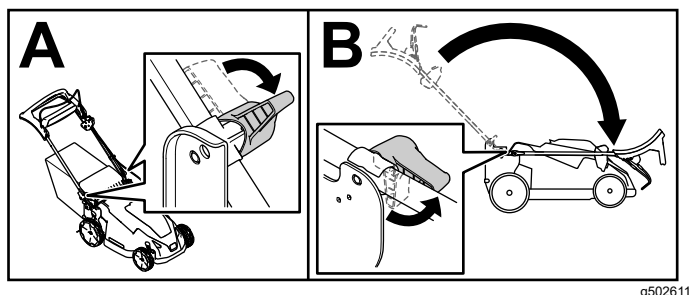

Figure 19
2. Disengage the handle locks until you can move the upper handle freely (A of Figure 19)
3. Fold the handle forward to the fully forward position and engage the handle locks (B of Figure 19).